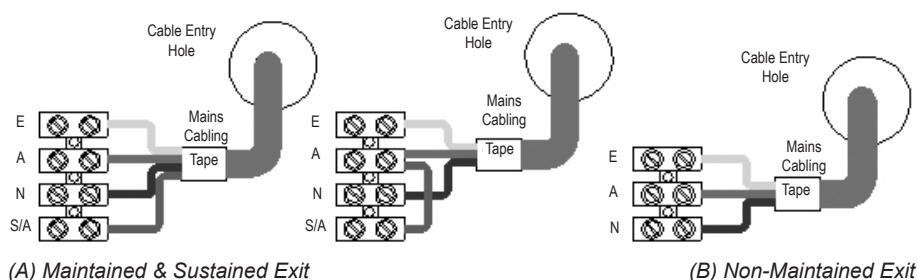

Figure 2: Mains Wiring Connection Economy Exit
4. Strip and connect the Mains cable as shown in Figure 2 using suitably sized screwdriver. Secure the mains cable with the tape.